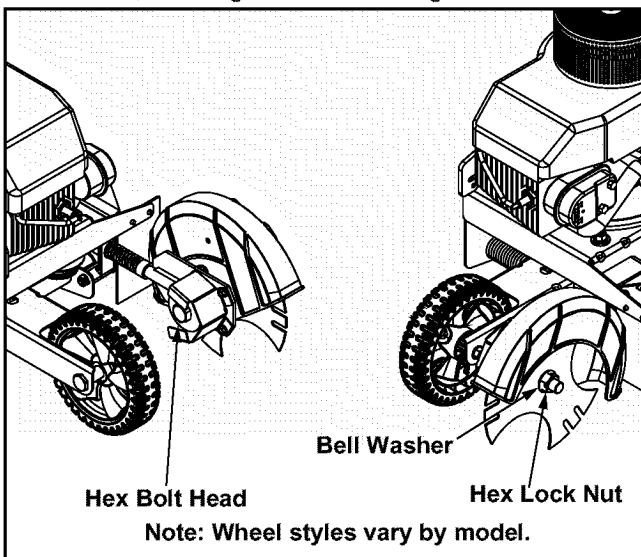

Figure 10
- Use two wrenches (one wrench to prevent the hex bolt head from spinning and the other to unthread the hex lock nut) to remove the hex lock nut, bell washer, and edger blade. See Figure 10.
- Use two wrenches (one wrench to prevent the hex bolt head from spinning and the other to remove the hex lock nut and bell washer) to remove the edger blade. Refer to Figure 10.